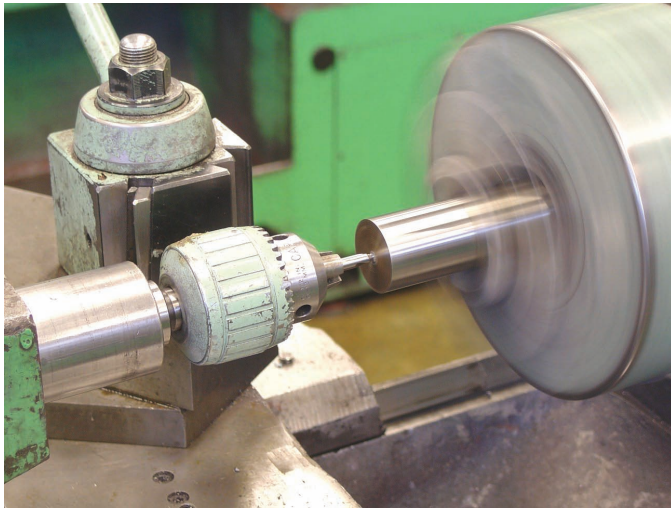

Figure 11-143 Ready for the center drilling of the bar.
The part protrudes out of the chuck a short distance—1 in. or less. At 500 RPM, face the end—clean up a minimum amount for a true face using a right-hand (RH) facing tool. At 1,000 RPM, center drill per Fig. 11-143 (or your shop's upper chuck RPM limit).